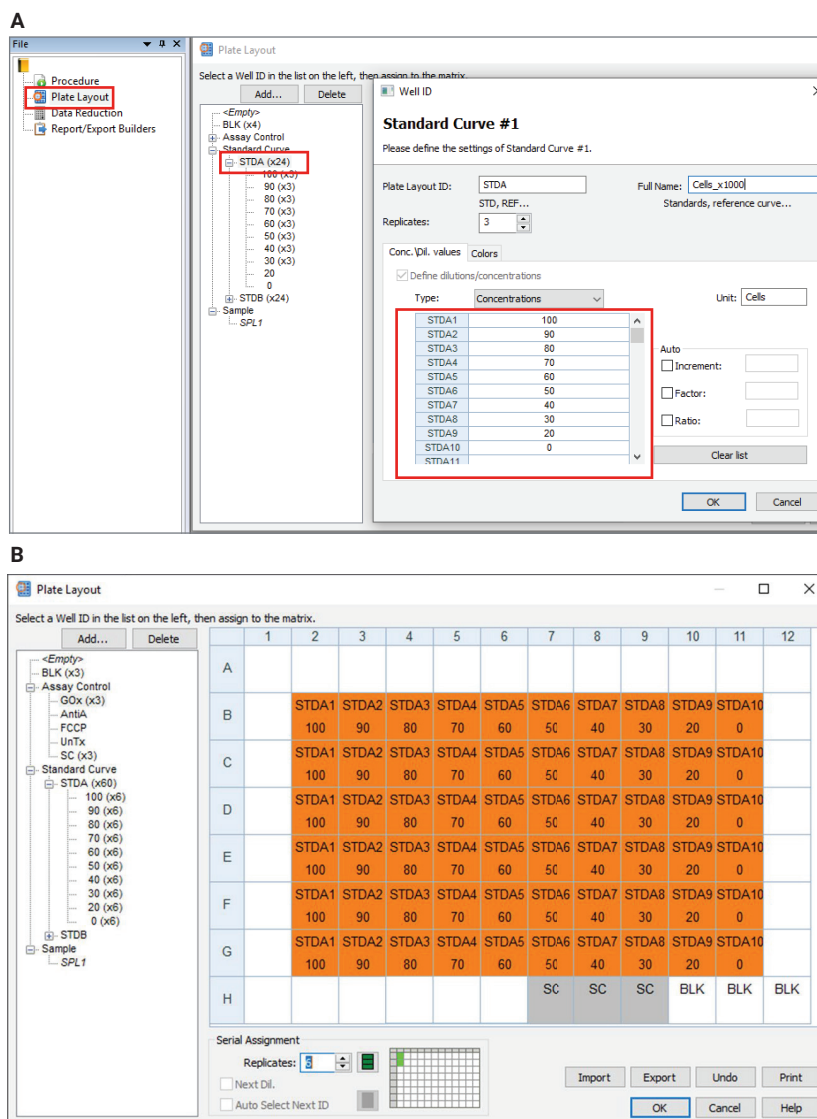

Figure 6. Adding a standard curve for cell optimization and suggested plate layout for optimization assay.
- iii. Enter a plate map, select **Plate Layout**, then add a standard curve. Select **Add > Standard Curve**, then enter the values for the cell numbers (Figure 6).